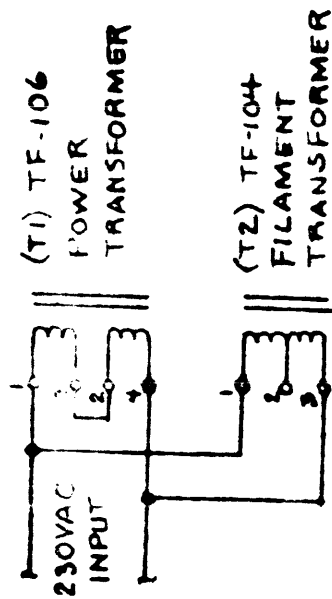

FIGURE 2-1. 230-V LINE VOLTAGE MODIFICATION DIAGRAM, CFA-1
d. CFA-1 - Rewire connections at T1 and T2 transformers as shown in figure 2-1. Replace 2-amp fuse (F1) cartridge with a